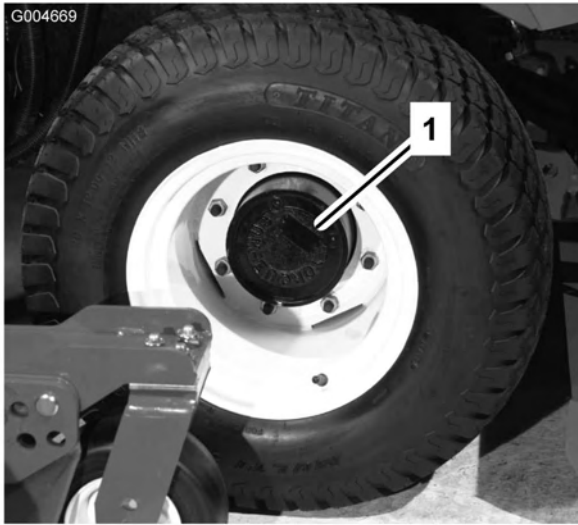
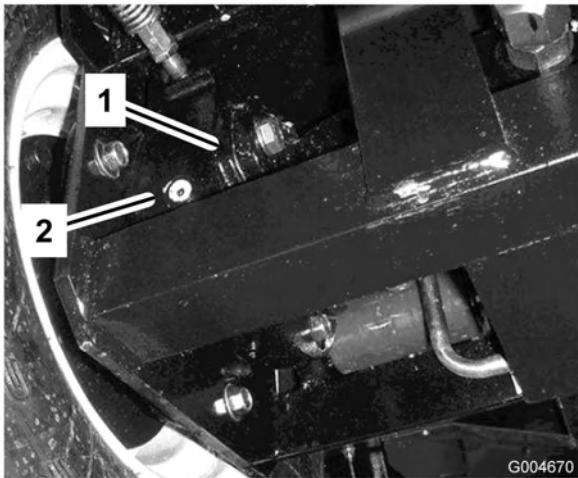

Figure 10
Figure 11
1. With the machine on a level surface, position the wheel so that the check/drain plug (Figure 10) is at either the 2 or 10 o'clock position.
2. Remove the plug on the planetary (Figure 10) and check the plug on the back side of the brake (Figure 11). Oil should be at the bottom of the check hole on the back side of the brake.